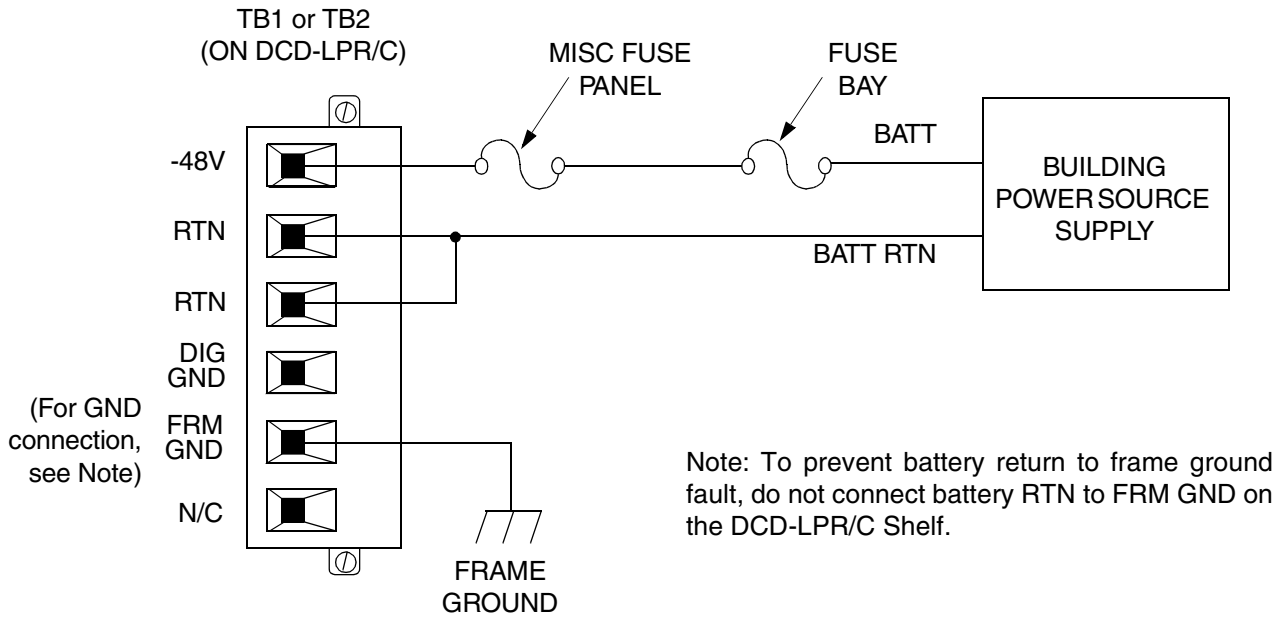

Figure 26. DCD-LPR/C Ground and Power Connections
3.38 Refer to Figure 26 for an illustration of the DCD-LPR/C power and ground connections. Perform the following, to correctly ground the DCD-LPR/C.